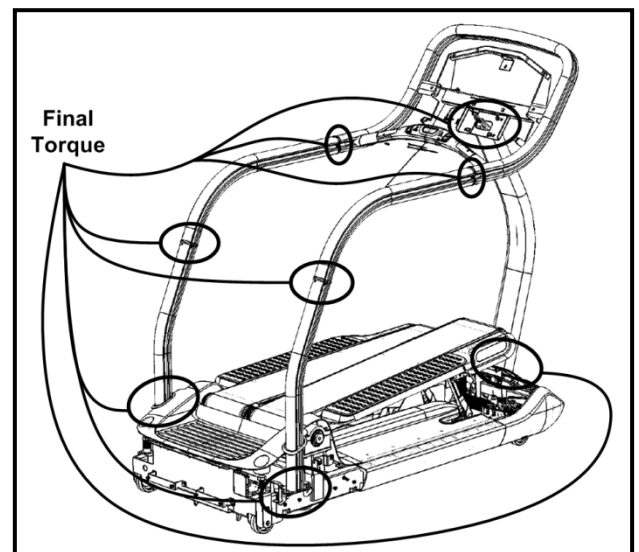

Fig. 14
- Using a torque wrench, go back to steps: 6, 8, 9, 12, & 13 to thread all bolts mentioned in each step to their corresponding final torque (Fig. 14) specifications which are listed in the notes section of the step instructions.